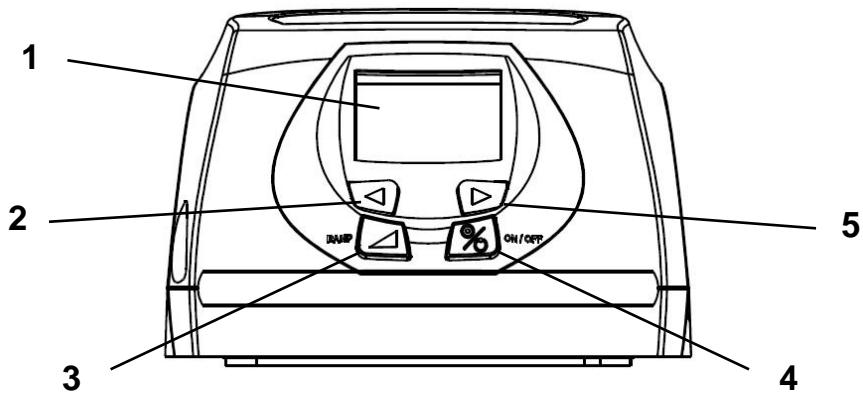
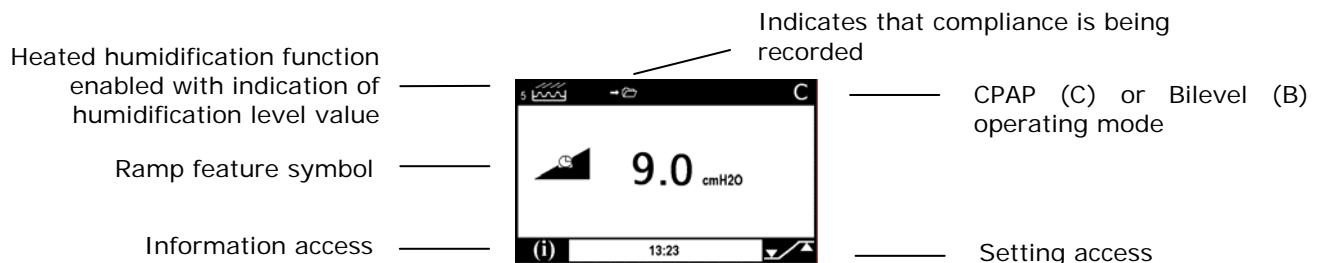

Figure 3 – Front view
Figure 14 – View of the display when the device is operating
Push the on/off button (Item 4 of Figure 3 on page 7) to start the device. The screen illuminates. On the Sandman Duo™ or Sandman DuoST™ devices, the estimated mask pressure is displayed. The backlight for the display will come on and remain illuminated
The **Sandman Duo™ or Sandman DuoST™ device** is described in the following. It is equipped with custom accessories and includes an integrated electrical power supply. See Figures 3 to 7 on page 7.
1. To start the device, press and release the on/off button (item 4 of Figure 3 on page 7). The screen illuminates and displays the estimated mask pressure with the Sandman Duo™ or Sandman DuoST™ device (see Figure 14).